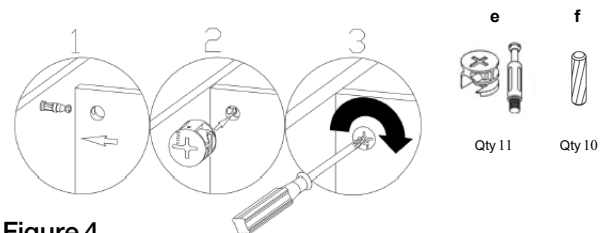

Figure 4
5. Install female cam locks (e) into designated holes, and then, lock them with a screwdriver. (Figure 4)